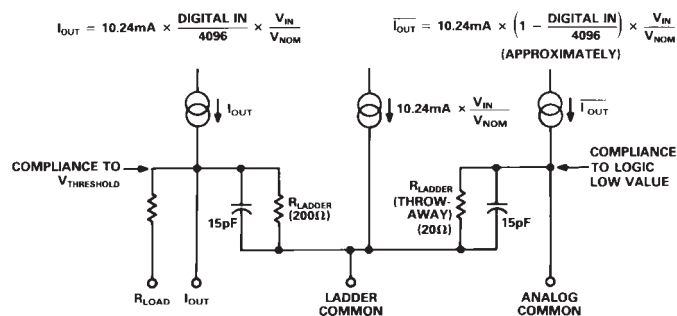

Figure 4. Equivalent Output Circuit
1Measured in  $I_{OUT}$  mode. Specified at nominal 5 V full-scale reference.2Measured in  $V_{OUT}$  mode, unless otherwise specified. Specified at nominal 5 V full-scale reference.3Total resistance. Refer to Figure 4.4At the major carry, driven by HCMOS logic.5 $V_{OUT} = 1$  V p-p,  $V_{IN} = 10\%$  to  $110\%$ , 100 kHz. Digital Input All 1s.6 $V_{IN} = 200$  mV p-p, 1 MHz Sine Wave. Digital Input all 0s. See Figure 20.7Measured at  $15$  V  $\pm 10\%$  and  $12$  V  $\pm 10\%$ .Specifications shown in **boldface** are tested on all production units at final electrical test.
The AD668 has an output compliance range of -2.0 V to +1.2 V (with respect to the LCOM pin). The current steering output stages will be unaffected by changes in the output terminal voltage over this range. However, as shown in Figure 4, there is an equivalent output impedance of 200  $\Omega$  in parallel with 15 pF at the output terminal, producing an equivalent error current if the voltage deviates from the ladder common. This is a linear effect which does not change with input code. Operation beyond the maximum compliance limits may cause either output stage saturation or breakdown, resulting in non-linear performance. The positive compliance limit is not affected by the positive power supply, but is a function of the output current and the logic threshold voltage at  $V_{TH}$ , Pin 13.
The internal wiring and pinout of the AD668 are dictated in large part by current management constraints. When using low impedance, high current, high accuracy parts such as the AD668, great care must be taken in the routing of not only signal lines, but ground and supply lines as well. The following accounting provides a detailed description of the magnitudes and signal dependencies of the currents associated with each of the part's pins. These descriptions are consistent with the functional block diagram as well as the equivalent circuits provided in Figures 4, 5, and 6.
**IOUT** – the output current. In the current output mode with this node tied to a virtual ground, a 10.24 mA nominal full scale output current will flow from this pin. In the voltage output mode, with RL grounded, half of the output current will flow out of RL and the other half will flow out of LCOM. External resistive loading will cause current to be divided between LCOM, RL, and IOUT as Figure 4 suggests.
**ACOM** – as indicated in Figure 4, the current flowing out of this pin is effectively the complement of IOUT, varying with both analog and digital inputs. Using this current as a signal output is not generally advised, since it is untrimmed and its positive output compliance is limited to the logic low voltage.